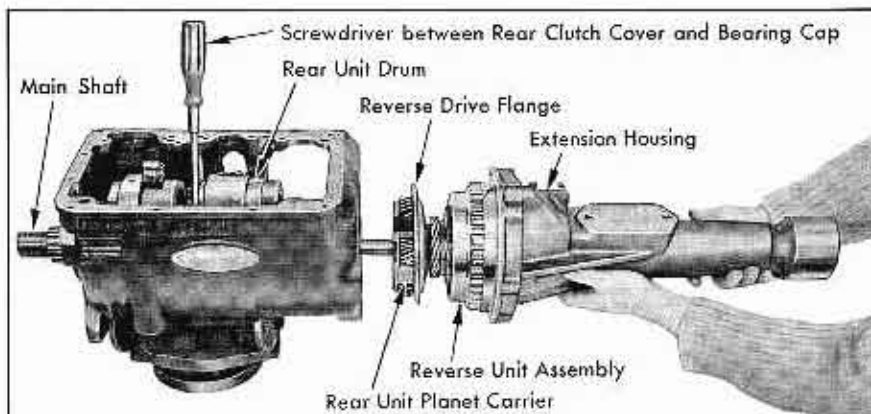

Fig. 14-28 Removing Extension Housing and Reverse Unit Assembly
3. Install screwdriver between the center bearing cap and rear clutch drum to prevent the drum from moving forward. The screwdriver should be placed at an angle to prevent damage to the oil delivery sleeve. Fig. 14-28.
5. Carefully remove reverse assembly from transmission case. If assembly sticks, tap on front end of mainshaft with plastic or similar type hammer. Fig. 14-28.